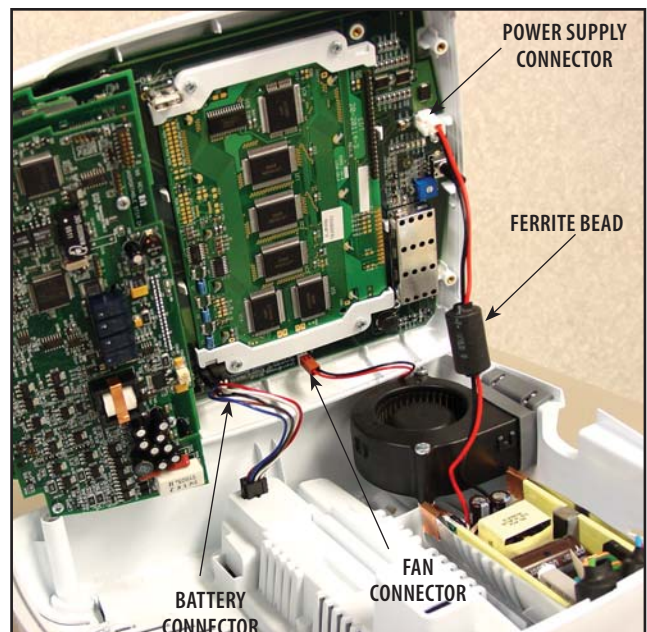

FIGURE 6.3
5. Raise the system Top and disconnect the Fan, Power Supply, and Battery Harnesses from the Control Board. **See Figure 6.3.**
When assembling the unit, tuck the Ferrite Bead between the power supply and the case. **See Figure 6.3**